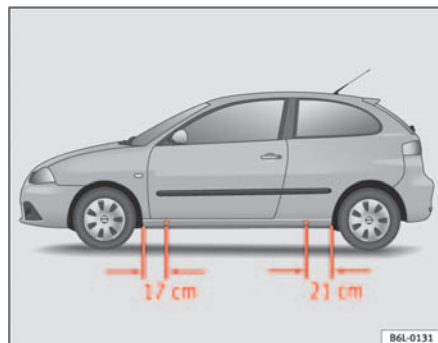

Fig. 142 The jacking points
- Locate the jacking point under the door sill closest to the wheel to be changed ⇒ fig. 142.
Recesses at the front and rear of the door sills mark the jacking points ⇒ fig. 142. A position has been made for each wheel. Do not fit the jack anywhere else.